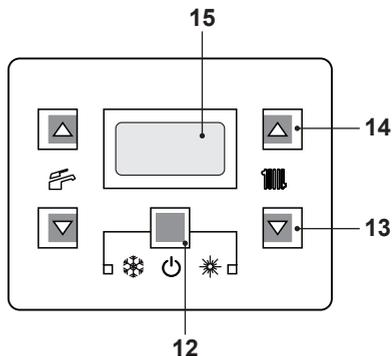
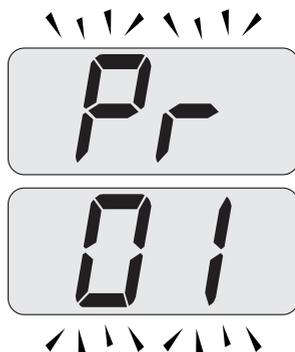
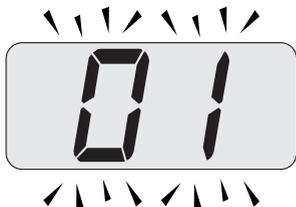

Fig. 8.31
Fig. 8.32
Fig. 8.33
- Enter the "programming mode" by sequentially pressing and holding in keys, 12 - 13 and then 14 (Fig. 8.31) for 10 seconds until the letters **Pr** that alternate with code **01** are displayed on the LCD display, indicating that "parameter 01" (Fig. 8.32) has been activated.
- Press keys 12 and 14 (Fig. 8.31) at the same time until the value of parameter 01 (73=**ADVANCE 25S** or 96=**ADVANCE 30S**) is displayed on the LCD display (Fig. 8.33).
- Press keys 12 and 13 (Fig. 8.31) at the same time to exit without changing the value (return to the parameters list Fig. 8.32).
- Press sequentially keys, 12 - 13 and then 14 (Fig. 8.31) and hold in for 10 seconds to exit the "programming mode".